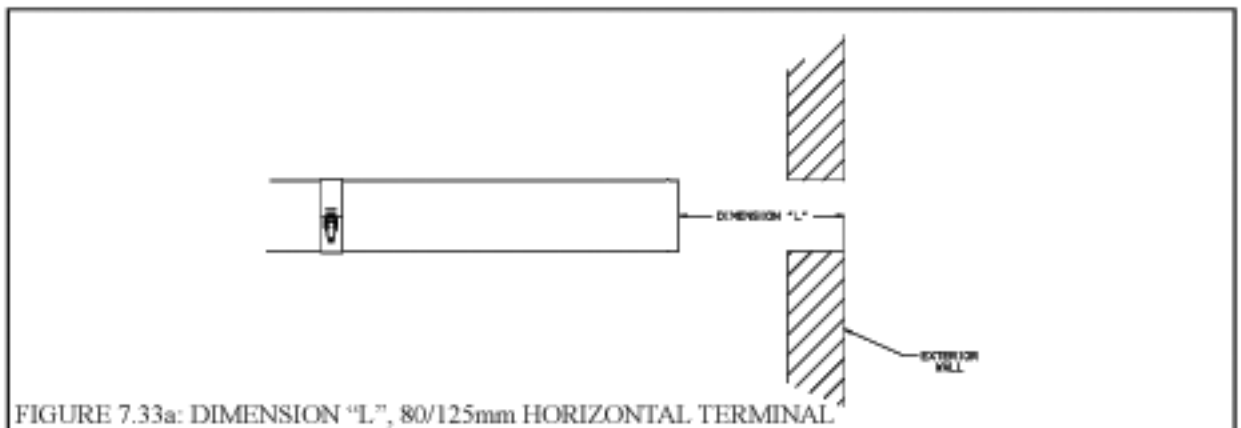

FIGURE 7.33a: DIMENSION "L", 80/125mm HORIZONTAL TERMINAL.
- b) Measure distance "L" from the outside surface of the exterior wall to the end of the last fitting as shown in Figure 7.33a.